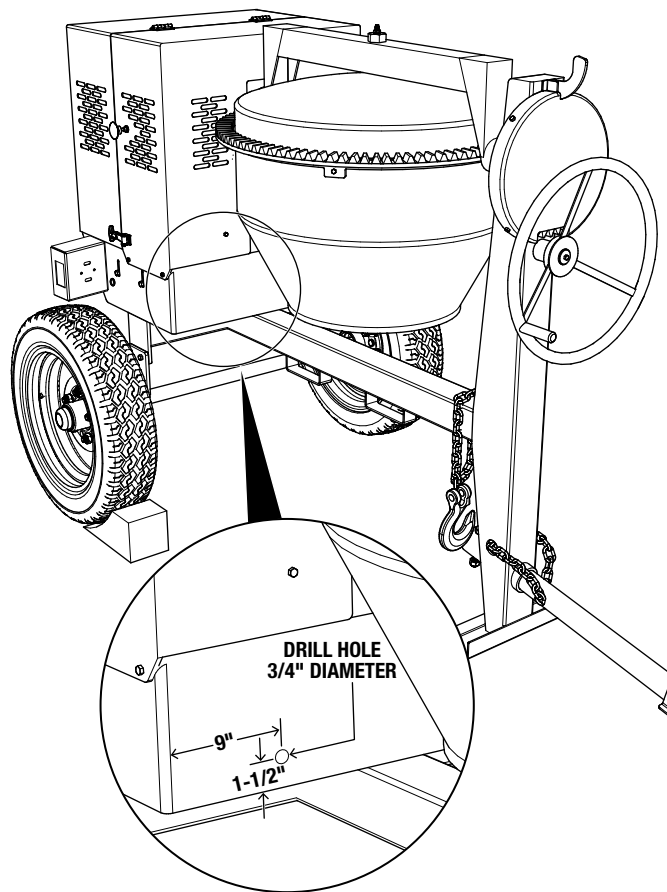

Figure 7. Drill Cabinet Hole
1. Mark and drill a 3/4-inch hole into the front of the cabinet as shown in Figure 7.